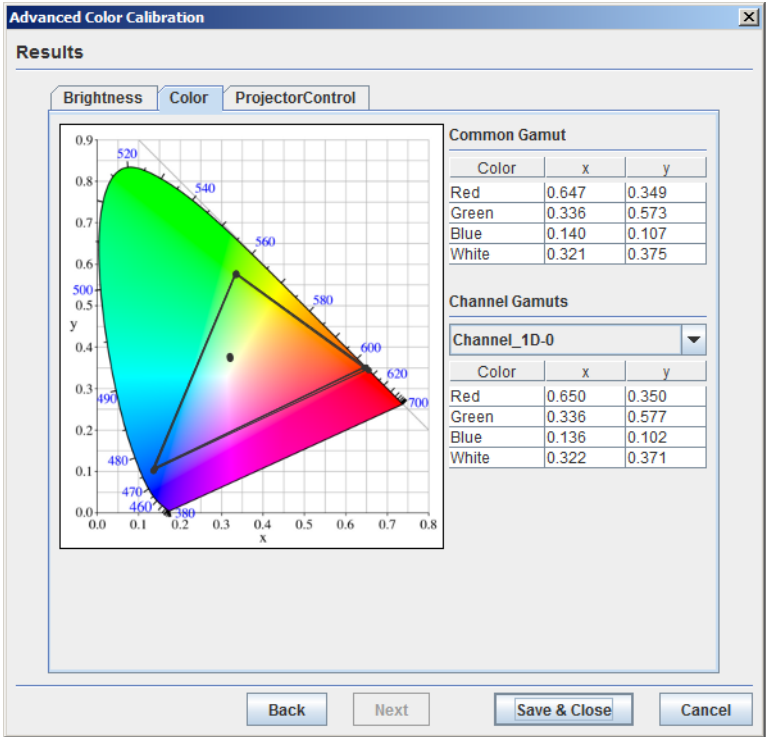

Figure 4-40 Advanced Color Calibration - Results - Color
- 14. To view information about the common color gamut achieved by the calibration, click the Color tab (Figure 4-40).